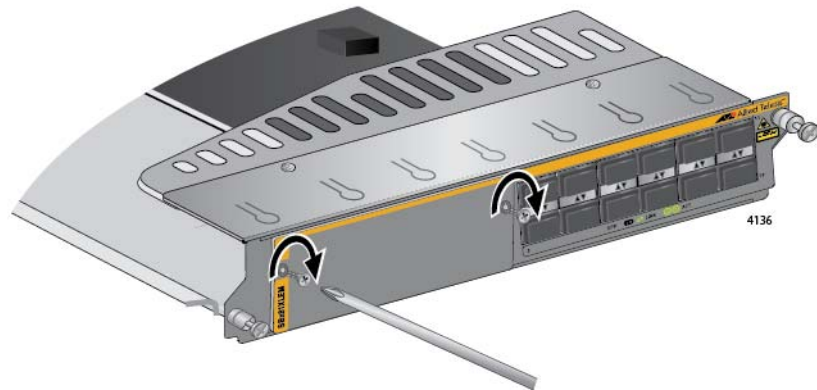

Figure 187. Securing the Blank Slot Cover
10. Secure the blank slot cover to the card with a Phillips-head screwdriver and the two screws removed in step 3. Refer to Figure 187.